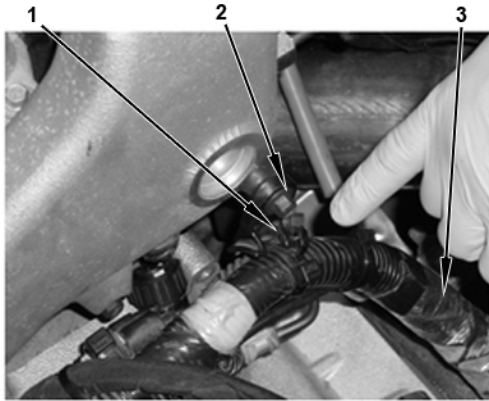

Figure 5 Engine Harness Guide
8. Remove engine harness guide (1) from bolt (2) (Figure 5).